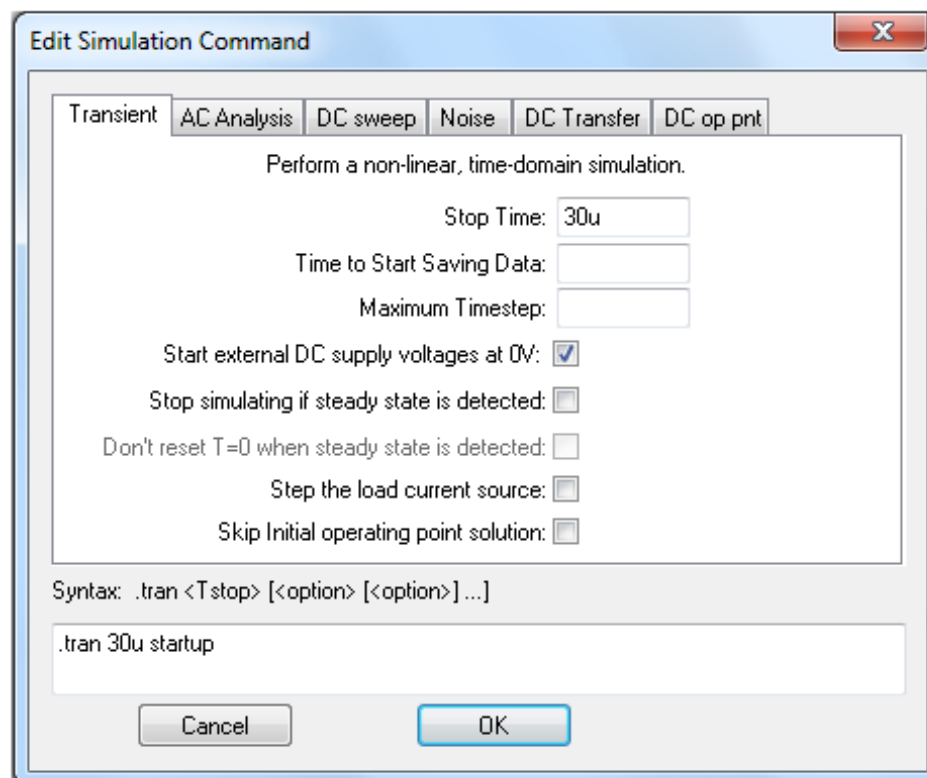
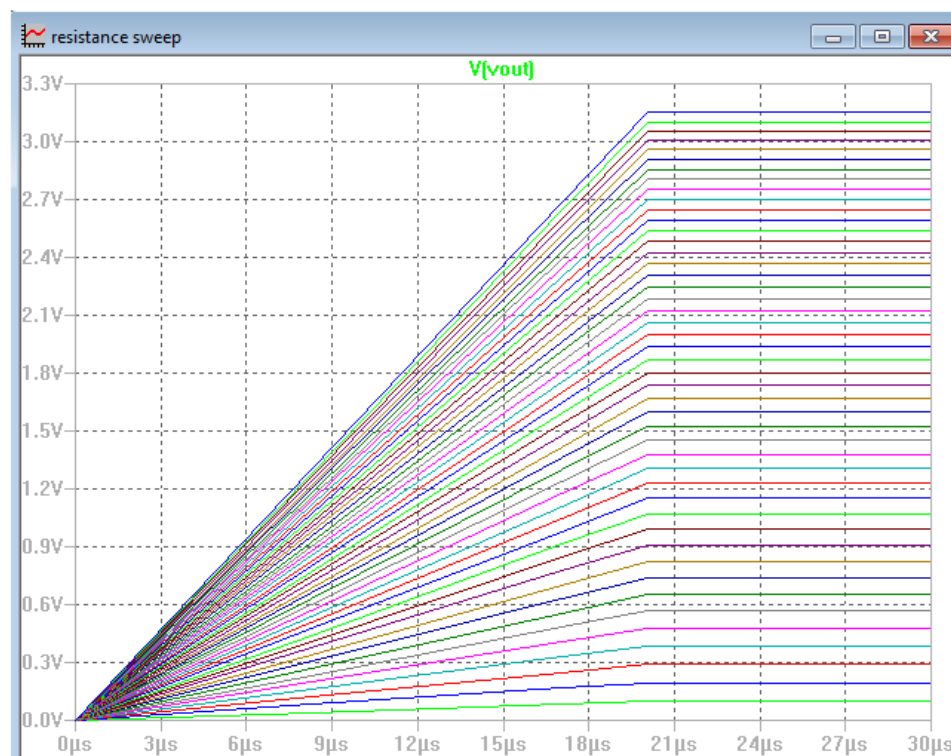
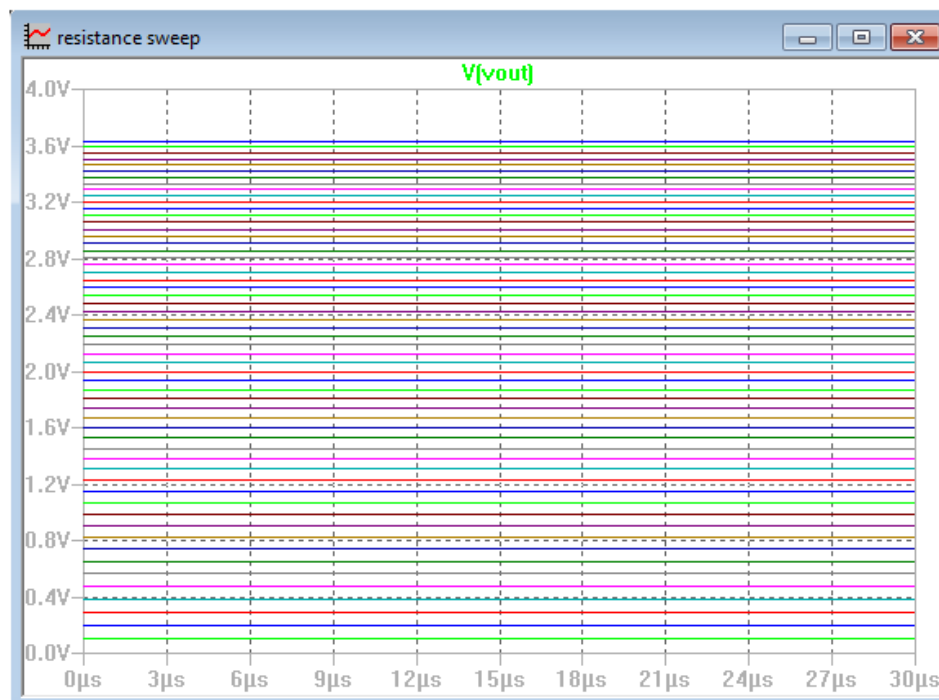

Figure 58: Edit simulation command
Figure 59: Resistance sweep waveforms
Figure 60: Resistance sweep steady-state waveforms
2. Setup the transient command as shown in Figure 58. Click on “Simulate” icon bar then “Edit Simulation Cmd” to show the Transient section. In this example Transient command is being used. However, it does not mean that you cannot use the other commands. The simulation results start when the box for Start external DC supply voltage at 0V is ticked. When the “Start external DC supply voltages at 0V” is ticked, the simulation will start at zero and the ramping or rising of the waveforms will be those shown in Figure 59. Otherwise, when the “Start external DC supply voltage at 0V” is unticked, the waveform will only show the steady state as seen in Figure 60. This is not the only method to sweep resistance in LTspice.